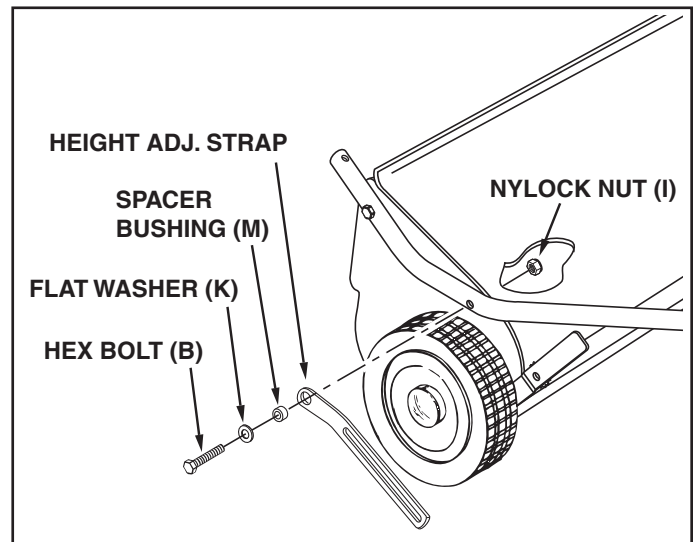

FIGURE 6
STEP 7: (SEE FIGURE 6)
- Attach the height adjustment strap to the hitch tube using a hex bolt (B), the spacer bushing (M), a flat washer (K) and a nylock nut (I). See figure 6. **Do not tighten yet.**